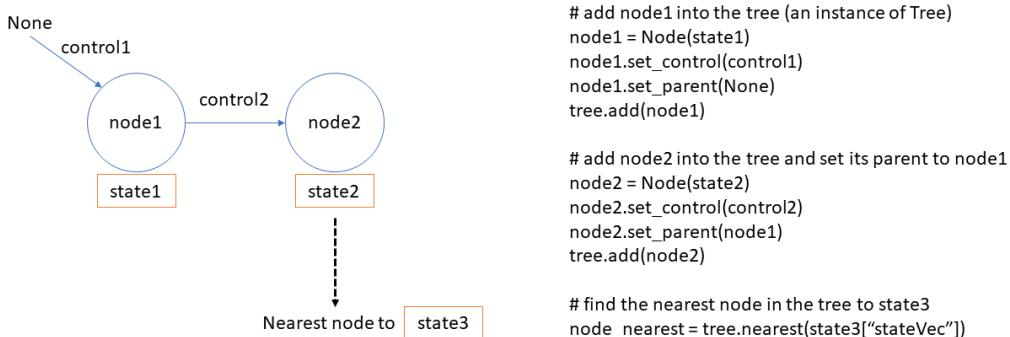

Figure 3: A basic example of how to use `Node` and `Tree`.
- Next, You need to implement the main algorithm of the Kinodynamic RRT. Please first read and understand the provided codes of the classes `Tree` and `Node` in `rrt.py`. They relate to the data structure that will be used by the Kinodynamic RRT planner. Below is a quick example of how to declare `Node` instances, set its associated controls, set its parent node, and add nodes to an instance of `Tree`, as illustrated in Figure 3.